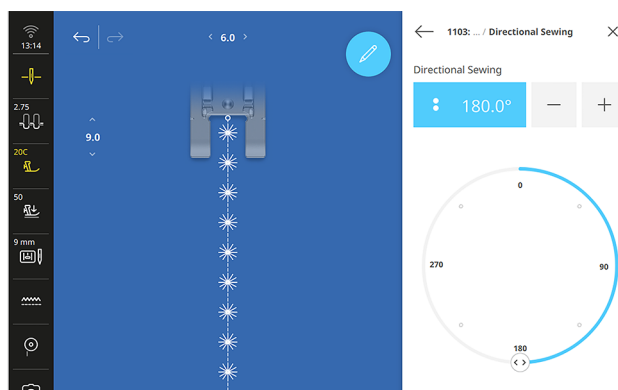

Fig. 25
3. Sew the stitch pattern for a couple of repeats to begin (Fig. 25).